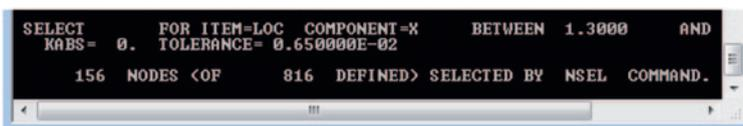

Fig. 9.23 Selection of nodes reported in the *Output Window*
- Activate the *ANSYS Output Window* and examine the lines on the bottom to confirm that several nodes are selected as a result of this action (Fig. 9.23).